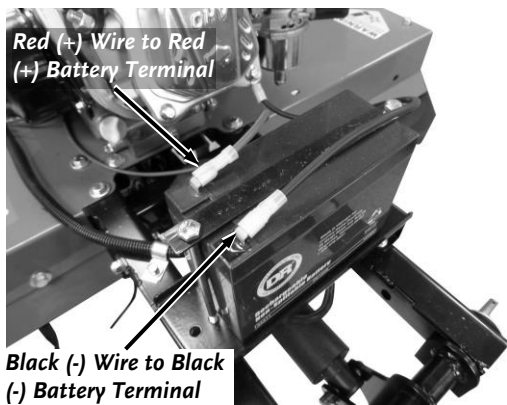

Figure 4
4. Plug the Battery Cables onto the Battery Terminals (**Figure 4**).